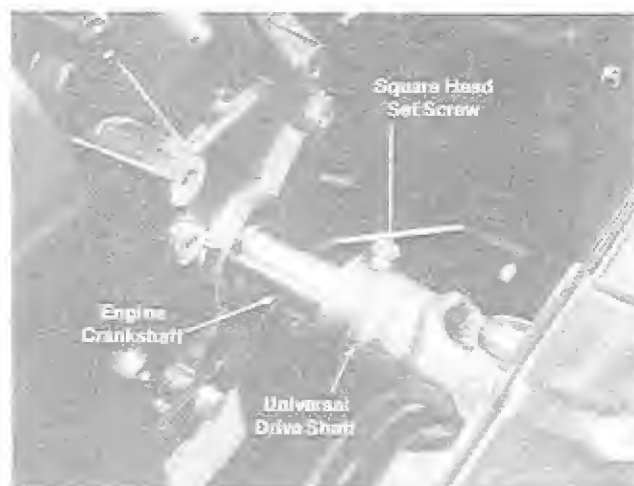

FIGURE 27.
1. Loosen the square head set screw on the front universal joint. See figure 27.